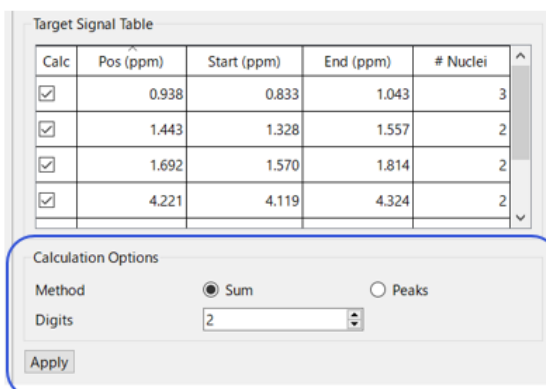

Figure 22: Calculation option on the SMILEQ widget
- Confirm the **"Target Signal Table"** details. If necessary, manually (de)select the signal for the analyte or enter the nuclides information as shown in Figure 22.